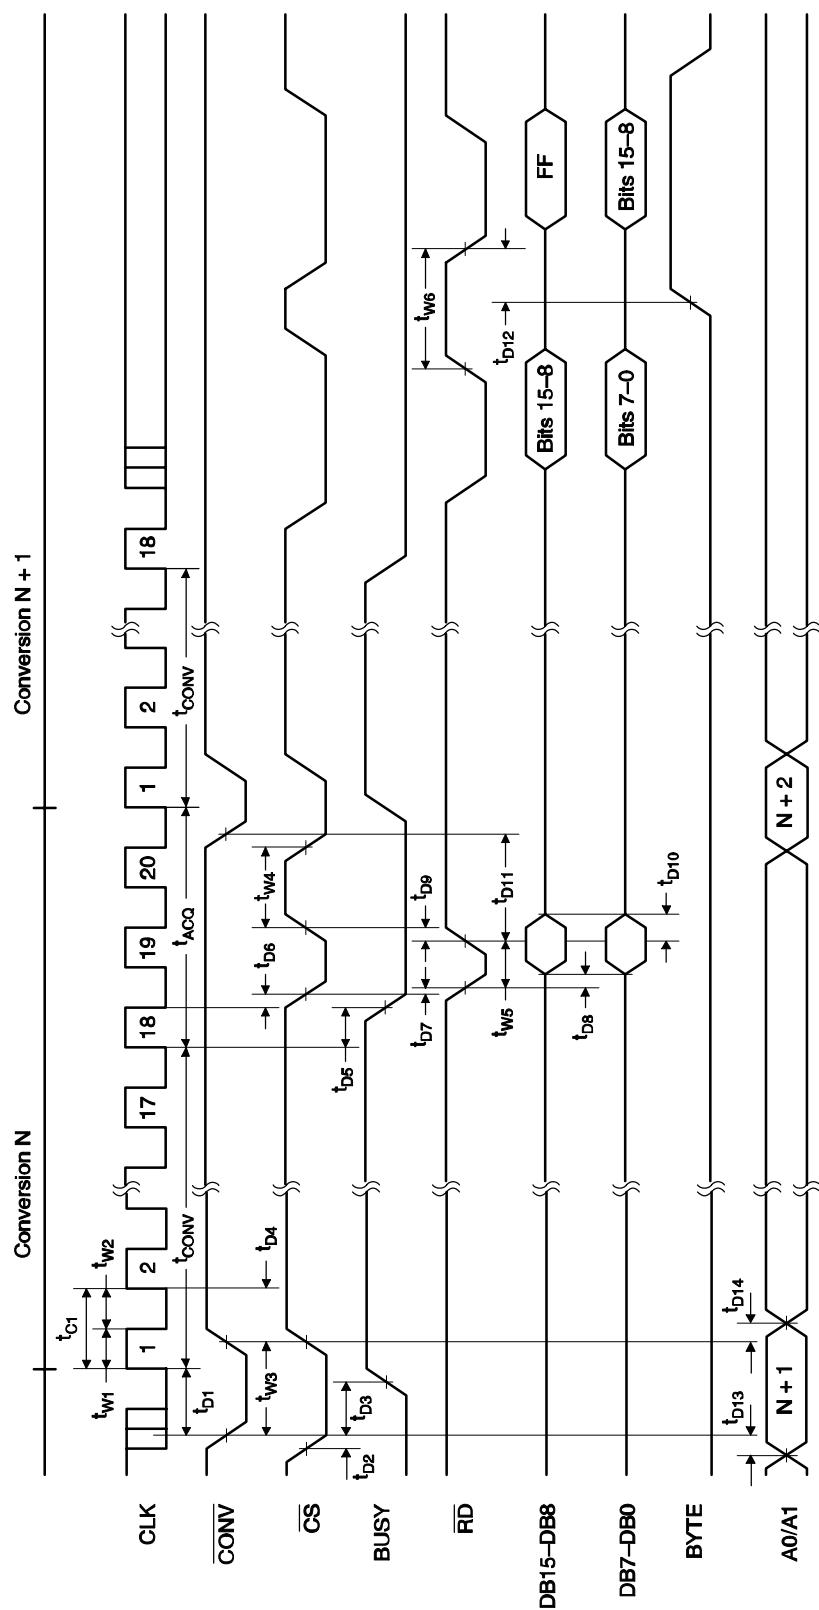

Figure 2. Timing Diagram
- (1) All input signals are specified with rise and fall times of 5ns, $t_{\text{R}} = t_{\text{F}} = 5\text{ns}$ (10% to 90% of BV_{DD}), and timed from a voltage level of $(V_{\text{IL}} + V_{\text{IH}})/2$.
- (2) See timing diagram in Figure 2.
- (3) $\overline{\text{CS}}$ can stay low during conversion. If it is not held low, then $\overline{\text{CS}}$ high to 2nd $\overline{\text{CS}}$ high must be $> 80\text{ns}$ (t_{D4})
- (4) BYTE is asynchronous. When BYTE is 0, bits 15 through 0 appear at DB15–DB0. When BYTE is 1, bits 15 through 8 appear on DB7–DB0. $\overline{\text{RD}}$ may remain low between changes in BYTE.